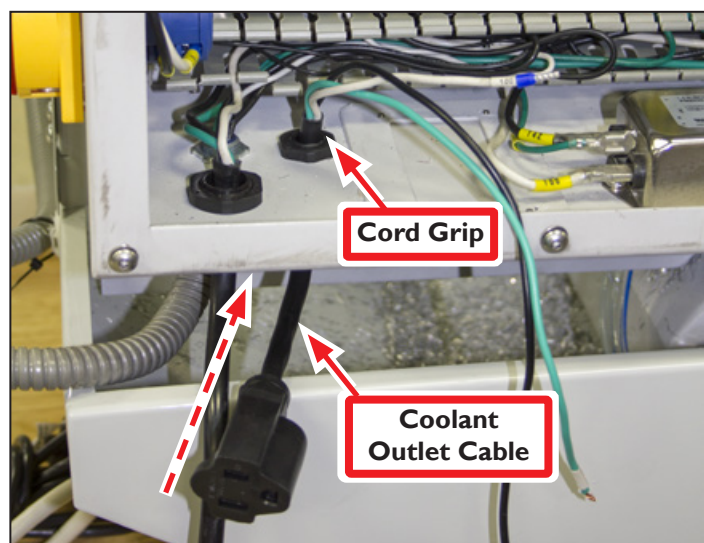

Figure 12
7. Route Coolant Outlet Cable through base of electrical cabinet as shown in **Figure 12**.